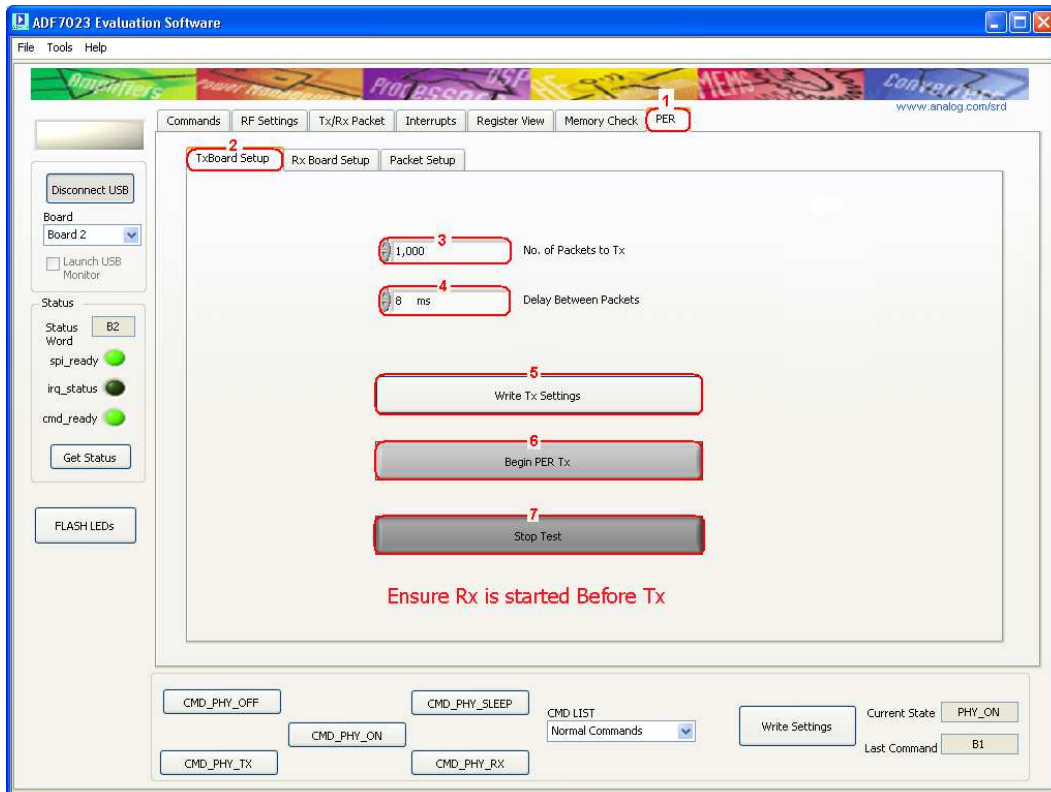

Figure 40
1. Once all of the Transmitter and packet parameters are setup correctly (as in *Tx Setup in Packet Mode* section) then select the “**PER**” Tab. (Figure 40 point (1))
2. Select the “**Tx Board Setup**” Tab (Figure 40 point (2))
3. Set the number of packets to be received, “**No. of Packets to Tx**” (Figure 40 point (3))
4. Set the delay between each transmitted packet from the “**Delay Between Packets**” dropdown menu. (Figure 40 point (4))
5. Write these settings to the uC by clicking “**Write Tx Settings**” (Figure 40 point (5))
6. To begin the test and put the receiver into Tx click “**Begin PER Tx**” (Figure 40 point (5))
7. If at any time you wish to terminate the test manually press “**Stop Test**”. (Figure 40 point (6))